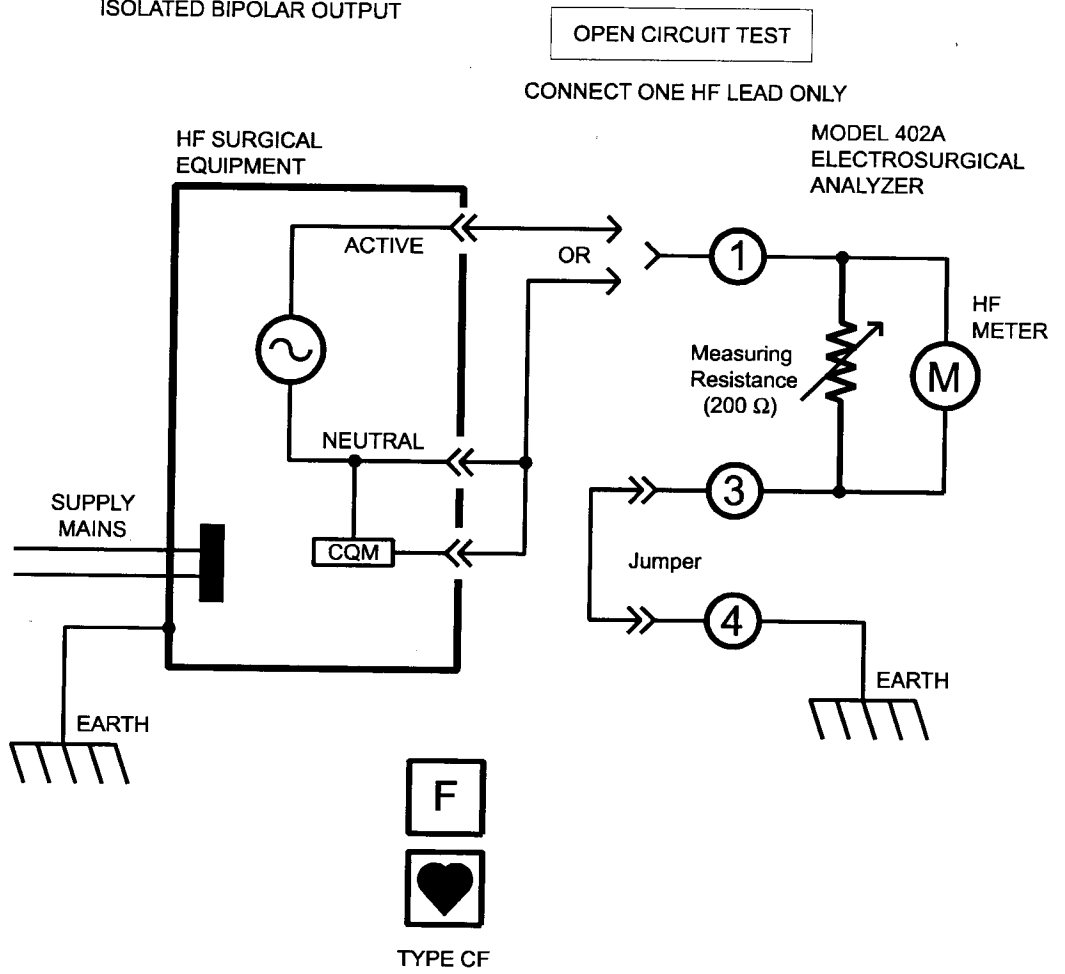

Figure 5-4. Diagram of HF Leakage Test Number Three.
The HF leakage current test number three (3) is an IEC-ANSI/AAMI isolated output/bipolar, CF-type, HF leakage current test. It shows you the amount of open-circuit high frequency current leakage from a single isolated electrode to earth/ground through the 200-ohm measuring resistance test load and HF meter. See Figure 5-4 for a diagram of this test at the end of this section.